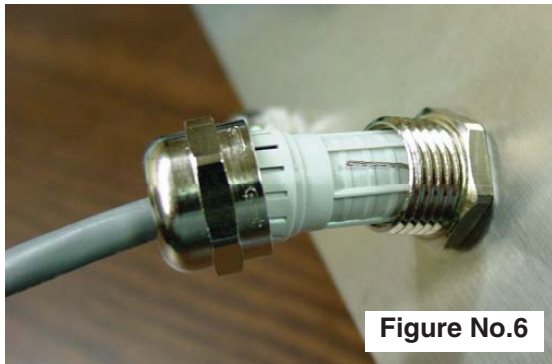

Figure No.6
11. Referring to Figure No. 6, fold the shield wire back over the plastic insert and then insert the plastic insert (with the shield wire) into the gland connector.